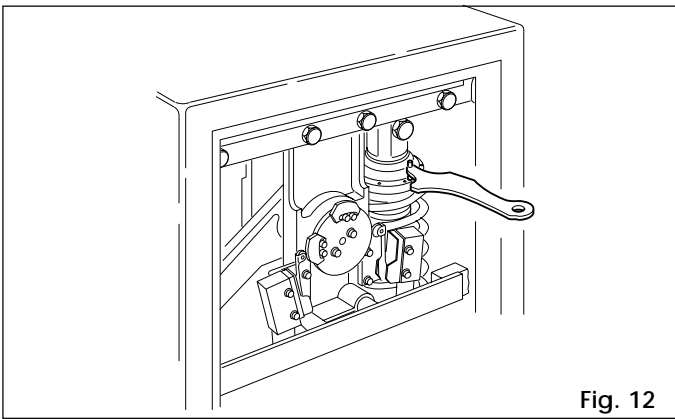

Fig. 12
- 2) Adjust the pre-loading ring nut, using the spanner supplied, as shown in Figure 12.